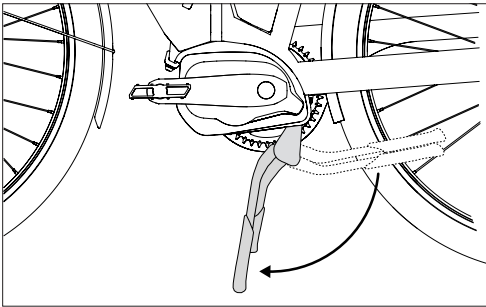

Fig. 28: Lowering the kickstand.
1. Lower the kickstand. Lift the rear end of the bike to allow it to fully straighten. Your bike should now be held up by the kickstand and balancing on its own (Fig. 28).